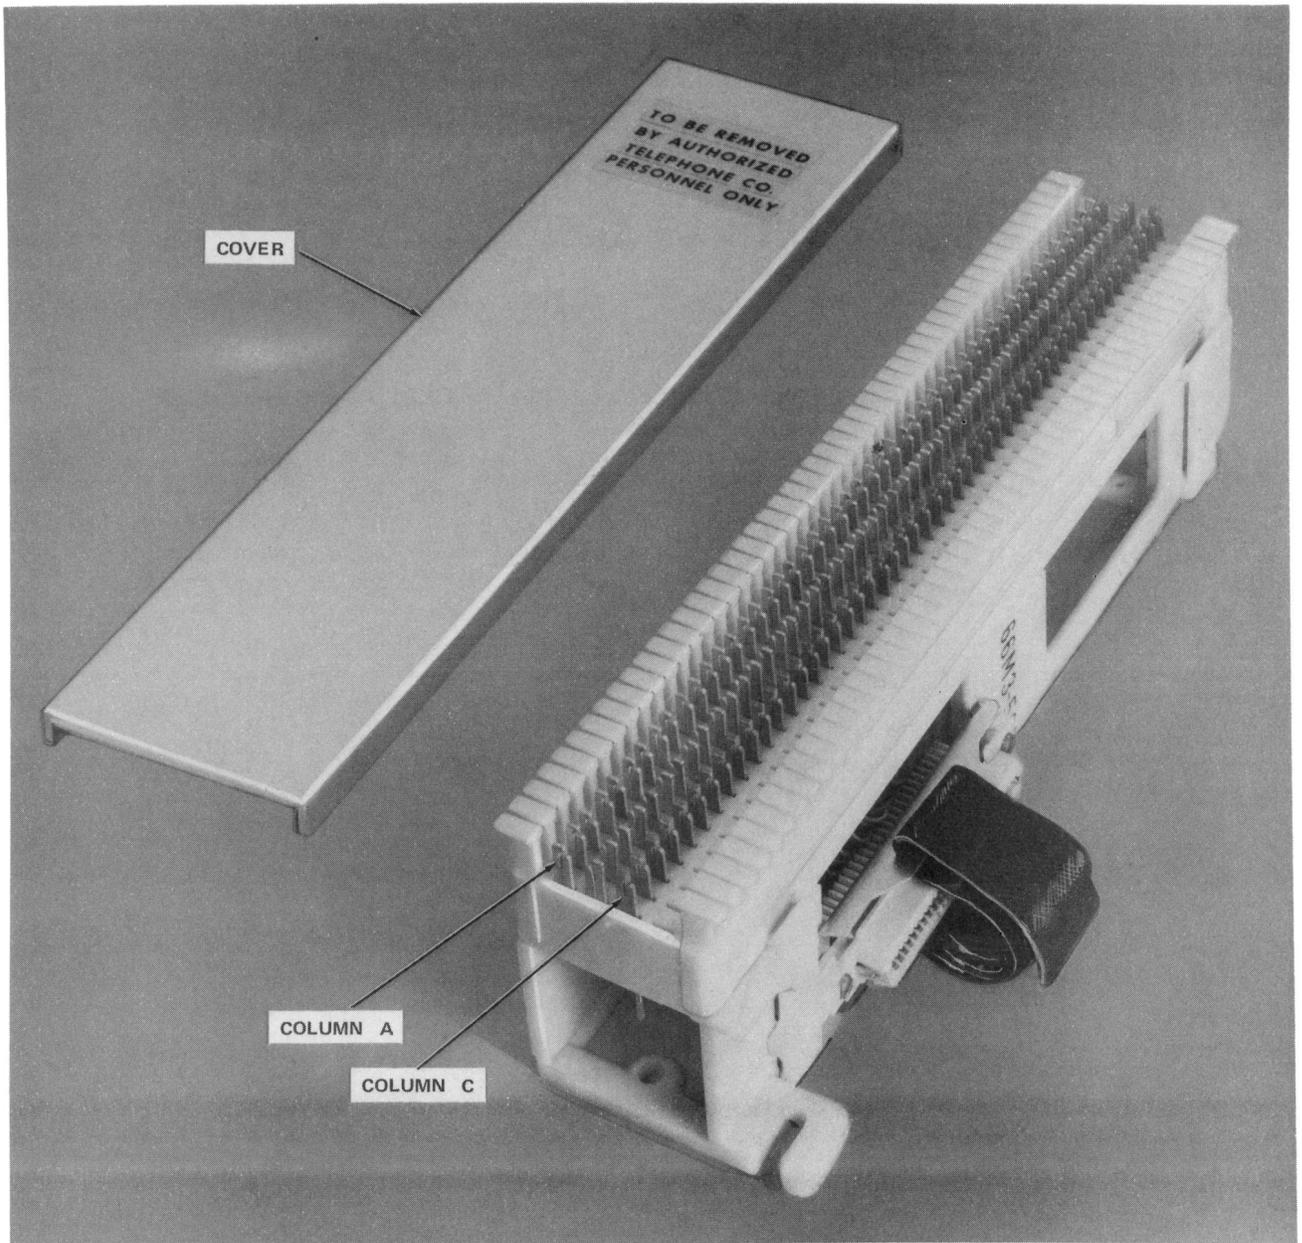

Fig. 1—66M3-50R or 66M4-50R Connecting Block (66M3-50 Shown)
- (b) Add new photograph of connecting block (Fig. 1).
1.03 The 66M3-50R and 66M4-50R connecting blocks are being replaced by 700-series jacks (Section 461-604-106) and will eventually be rated manufacture discontinued (MD).
2.01 The 66M3-50R connecting block (Fig. 1) is intended to serve as a network interface unit as required for the Federal Communications Commission (FCC) Registration Program for key telephone systems (KTSs) (except COM KEY® 416), PBX systems, and other communications systems such as automatic call distributors, switching systems, etc.